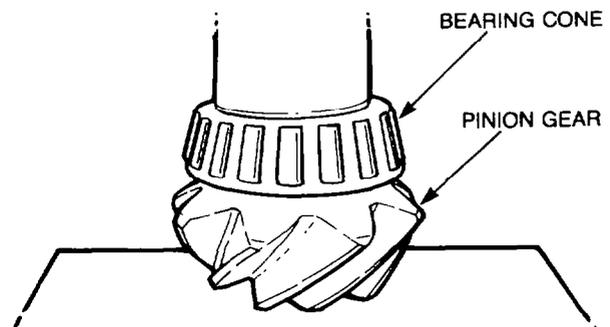

Figure 208 — Installing Pinion Shaft Bearing
- g. Position the pinion shaft in the hydraulic press, then lubricate the pinion shaft rear bearing cone with differential oil and start the bearing onto the shaft. With the aid of a suitable sleeve (or tubing), which bears against the inner race of the bearing cone, press the bearing onto the shaft until it butts firmly against the gear (see Fig. 208).